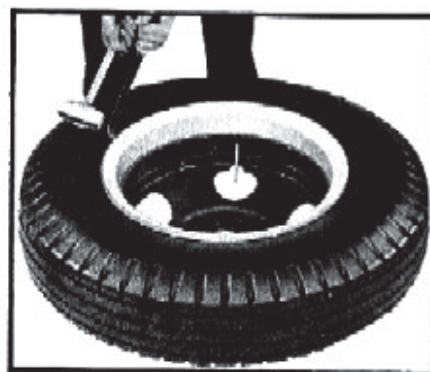

Fig. 73
2. Loosen the tire bead from its seat in the side ring by driving the bead loosening end of a tire iron between the tire bead and the side ring (fig. 73). Repeat this operation progres-